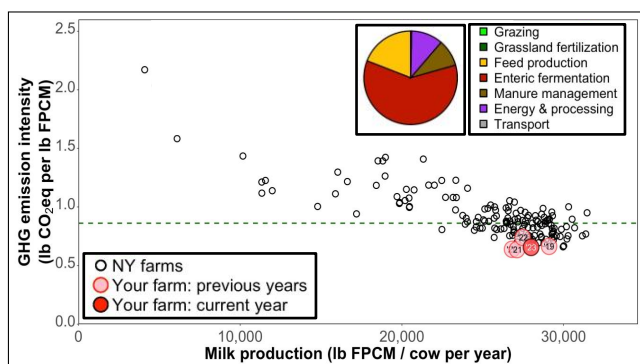

Fig. 2: An example of greenhouse gas inventory report figure showing emission intensity, source of emissions and a comparison to peers.
Key outputs for GHG tools typically include (1) emission intensity; and (2) total emissions, including a breakdown of the farm’s emissions by gas, source, and animal category. A farm’s GHG emission intensity is calculated by dividing the total farm emissions by fat and protein corrected milk (FPCM) yield. The use of FPCM standardizes milk production allowing for comparison across farms, regions, and supply chains. Both intensity and total emissions are important to understanding the environmental impact of GHG emissions and setting targets for emission reduction. These outputs allow users to track progress over time and compare themselves with peers (Fig. 2).